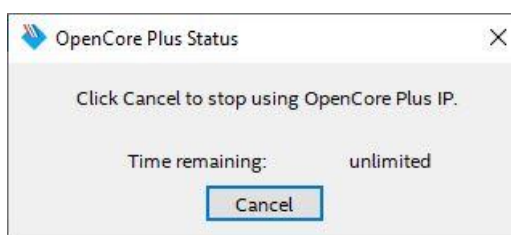

Figure 3-3 OpenCore Plus Status
- 6) When configuration is completed, Quartus will show popup message of OpenCore Plus as shown in Figure 3-3 OpenCore Plus Status. Please do not press cancel button, because configuration in FPGA will stop running.